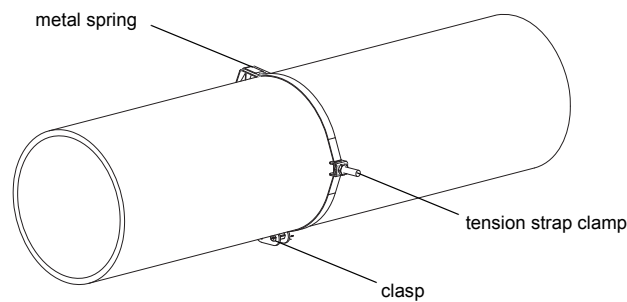

Fig. 9.10: Tension strap with tension strap clamp and metal spring on the pipe
One tension strap is fixed to the pipe (see Fig. 9.10). The second tension strap is mounted later.
- Position the clasp and the tension strap clamp on the pipe (see Fig. 9.10).
- Position the clasp, the metal spring and the tension strap clamp on the pipe (see Fig. 9.10):
- Position the clasp, the metal spring (if necessary) and the tension strap clamp on the pipe (see Fig. 9.10).